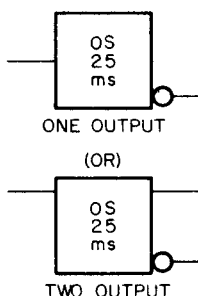

Figure 8-7 Symbol, One-Shot Function
The symbol in Figure 8-7 shows the one-shot (OS) function. The output signal shape, amplitude, duration, and polarity are determined by the circuit characteristics of the OS device. When it is not activated, the one-shot device is in either a 0 or 1 state. When the input is pulsed by a high-to-low level change, the 1 output goes high and remains high; and the 0 output goes low and remains low for the specific time of the device.